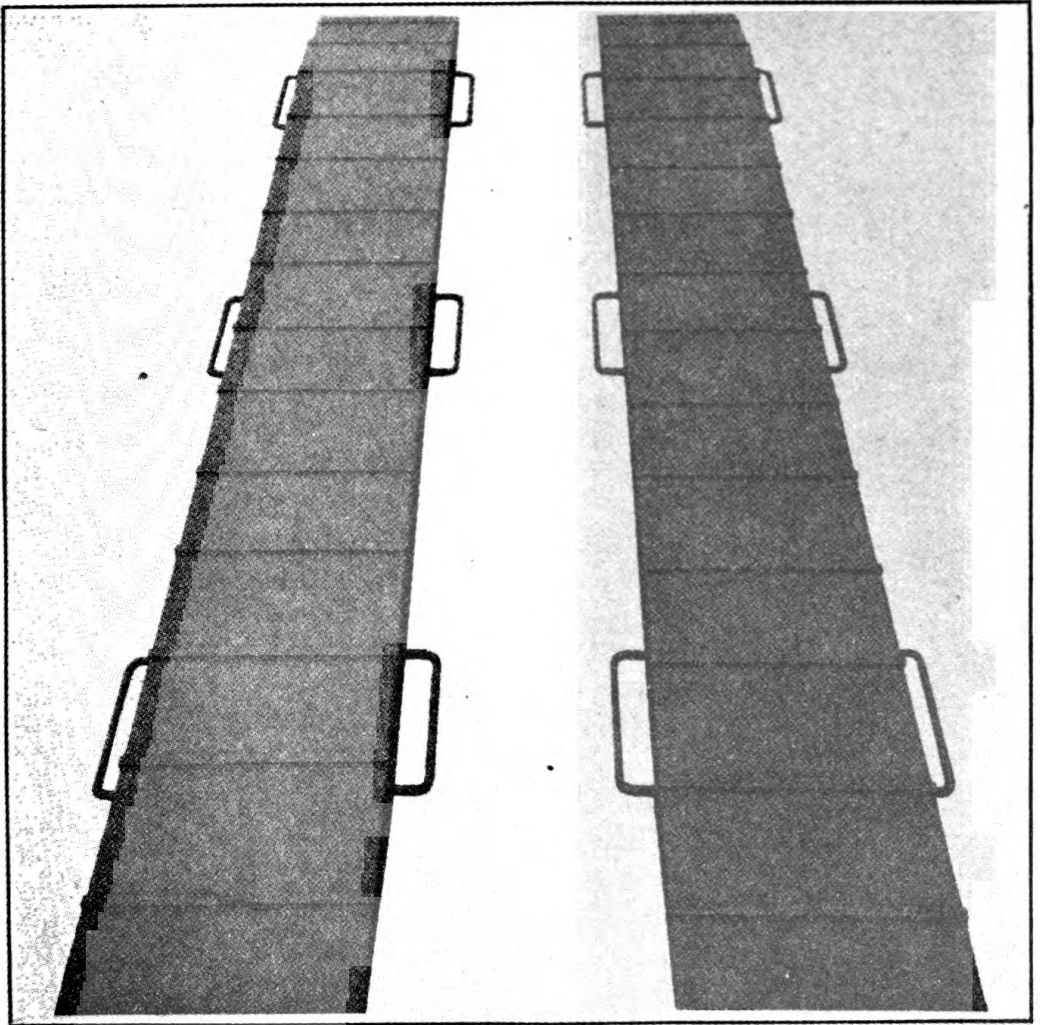

FIGURE 7. EQUIPMENT.
3. EQUIPMENT.—The equipment issued with this vehicle is illustrated in (Figure 7) and contains the items listed below: